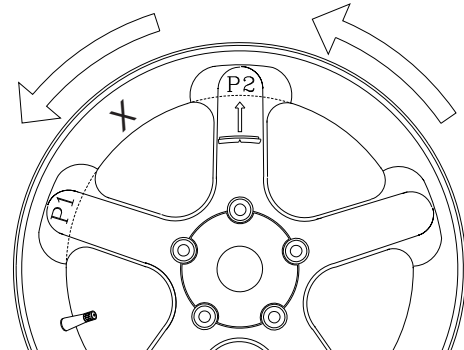

Figure 35
7. The display will read "**SPO 2**". Locate the second closest spoke to top dead center and rotate the wheel to the top dead center position, press **F** Button again to store the position. See Figure 35.